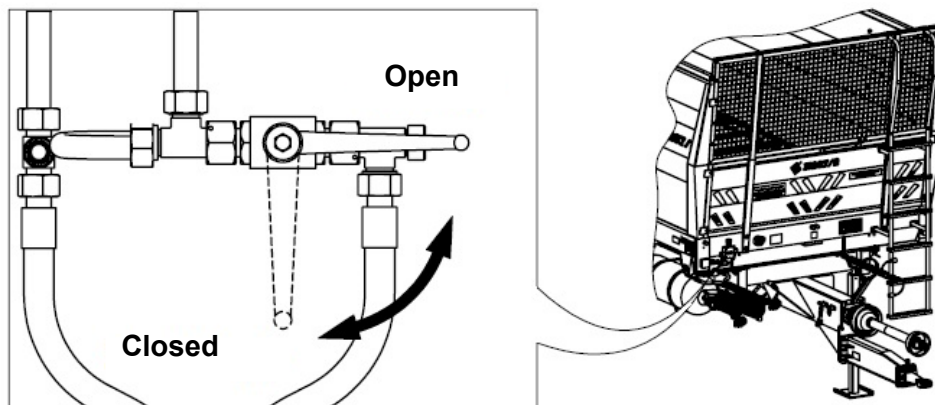

Figure 22 The blocking valve which prevents reversing of the conveyor
- 2) Shift the position of the rocker of the blocking valve that prevents reversing of the conveyor to the "Open" position - see Figure 22.